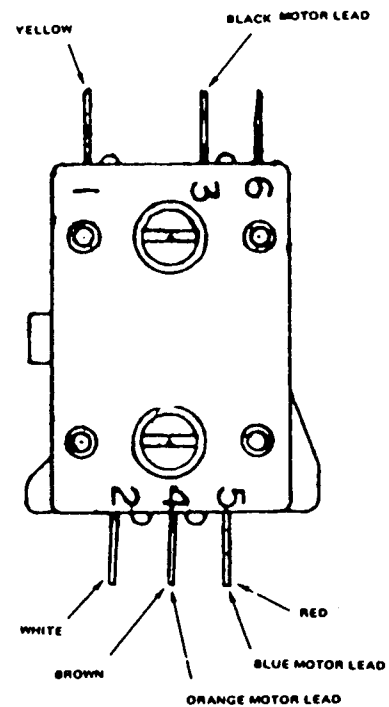

FIG. 11
- b. Connect a test jumper cord to terminals 4 and 5 of the motor switch (Fig. 11).